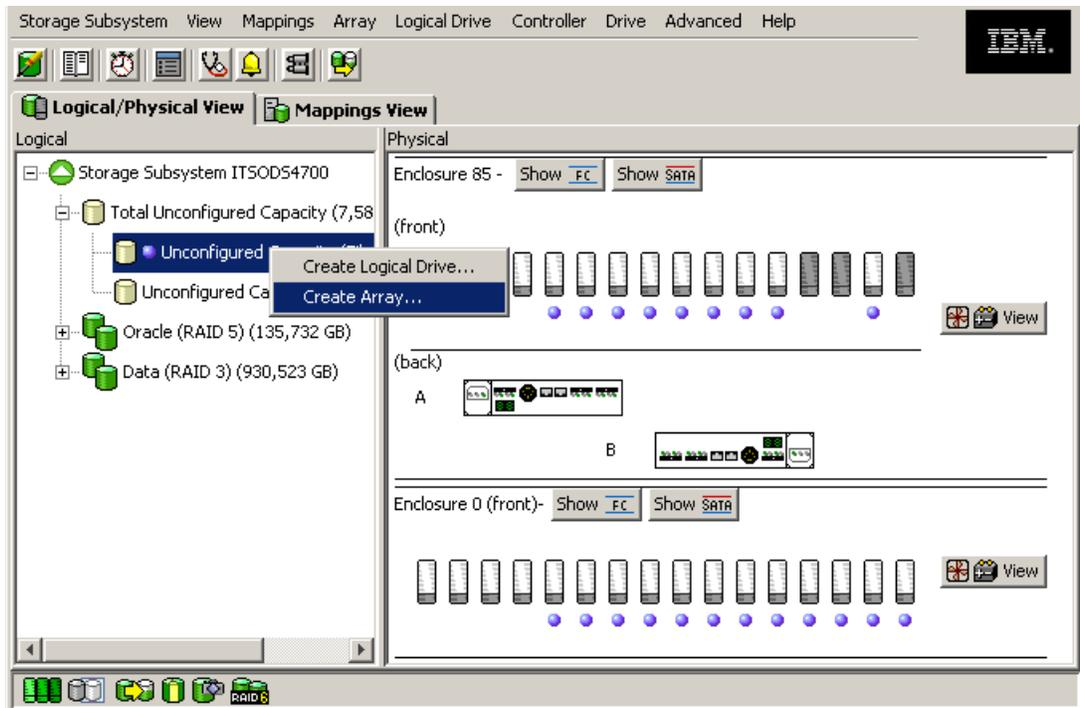

Figure 5-51 Create logical drive from unconfigured capacity
1. In the Subsystem Management window (Figure 5-51), right-click the unconfigured capacity. Since we have selected unconfigured capacity we first create an array option. Choosing **Create Logical Drive** opens a pop-up window that informs you to create the array first. Select **Create Array**.